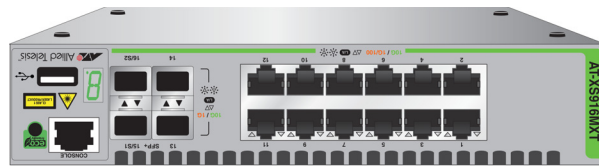

Figure 15. Turning the Switch Upside Down
2. Place the unit upside down on a level, secure surface. See Figure 15.